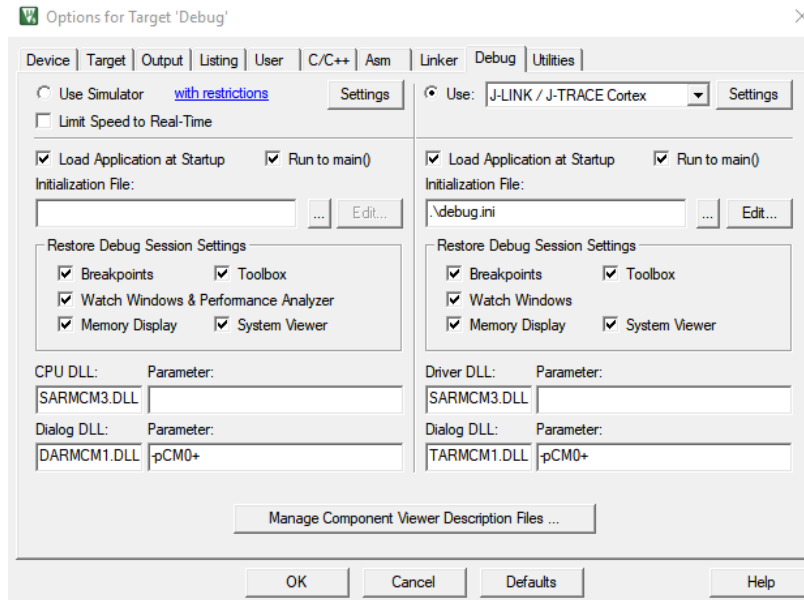

Figure 5. Setting of debug.ini file
2. Put the **.\debug.ini** command into the “Initialization File” field (“.” means the relative path from the *safety_cm0.uvprojx* project file to the *debug.ini* file, as shown in Figure 1 and Figure 2). The correct settings are shown in Figure 5.